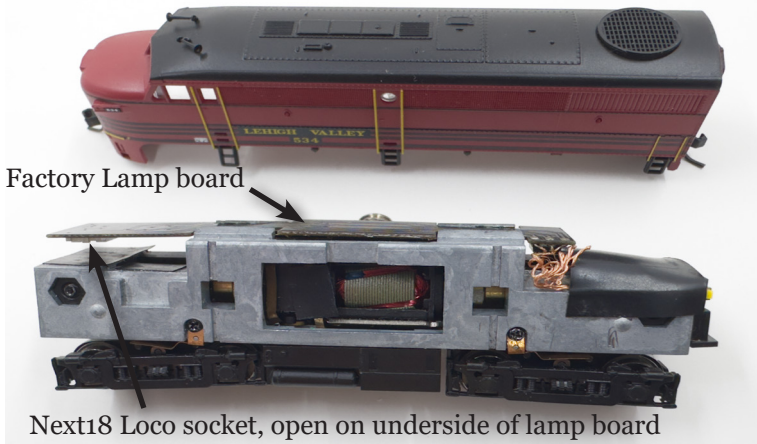

Figure 1: Atlas N-FA1 with factory board removed
5. The speaker for the Atlas FA-1 example of Figure 1 is factory installed in the fuel tank and will be connected when the Next18 plug is correctly engaged.